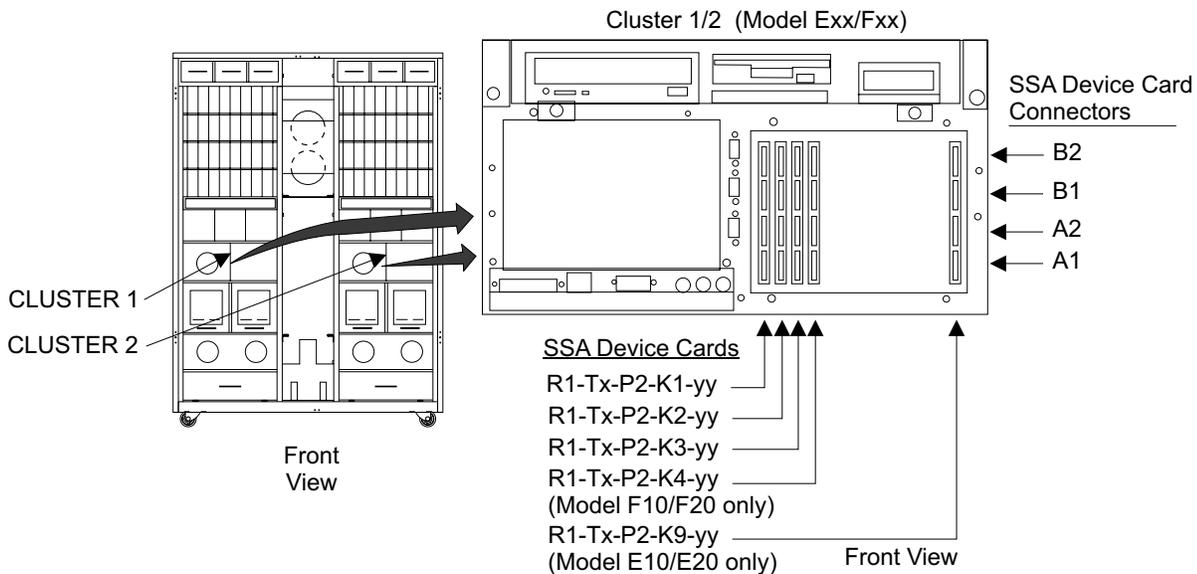

Figure 190. SSA Device Card Removal (S008022m)
1. Open the front cover of the 2105 Model E10/E20 rack and locate the cluster bay with the cluster bay SSA device card you are replacing, see Figure 190 on page 180: